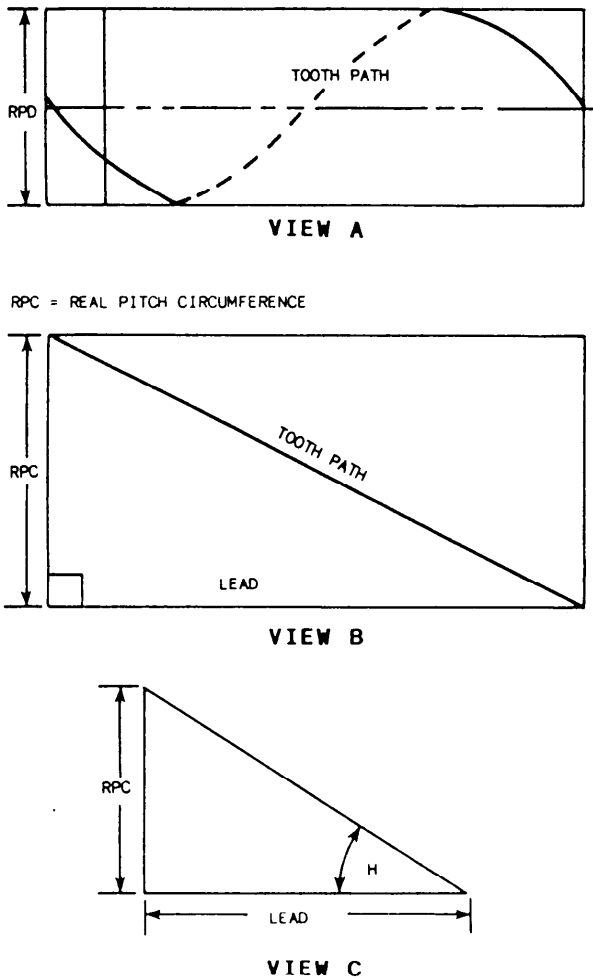

Figure 14-8.—Formulation of a lead triangle and a helix angle.
If we could open the gear on the pitch diameter (PD), we would have a triangle we could use to solve for the lead (fig. 14-8, view A).
Figure 14-8, view B, shows a triangle; one leg is the real pitch circumference and the other is the lead. Notice that the hypotenuse of the triangle is the tooth path and has no numerical value.
To solve for the lead of a helical gear, when you know the RPD and the helix angle, simply change RPD to RPC (real pitch circumference). To do that, multiply RPD by 3.1416 (π) (fig. 14-8, view C), then use the formula: